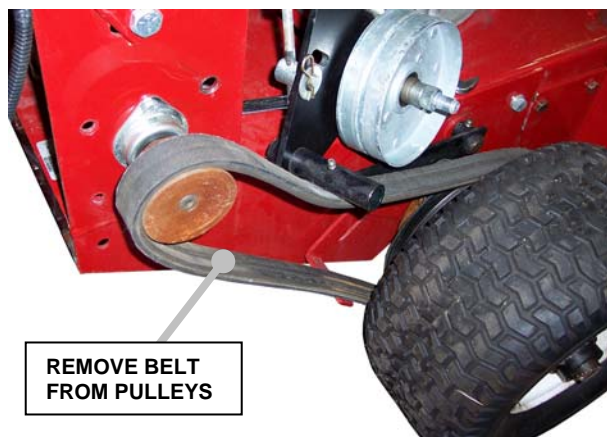

FIGURE 6.14
5. Slide old wheel drive belt off pulleys. See Figure 6.14. NOTE: Drop belt down around wheel, and roll mower over belt.